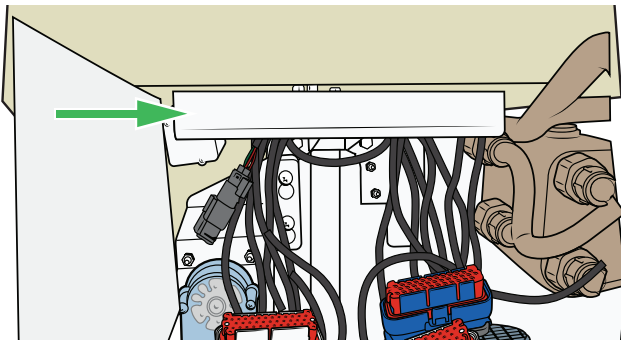

Figure 84
20. Put back the cable tray. See Figure 84.